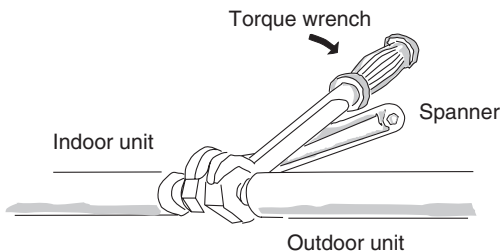

Fig. 2-27
- (1) Tightly connect the indoor-side refrigerant tubing extended from the wall with the outdoor-side tubing.
- (2) To fasten the flare nuts, apply specified torque as at right:
- When removing the flare nuts from the tubing connections, or when tightening them after connecting the tubing, be sure to use 2 adjustable wrenches or spanners. (Fig. 2-27)